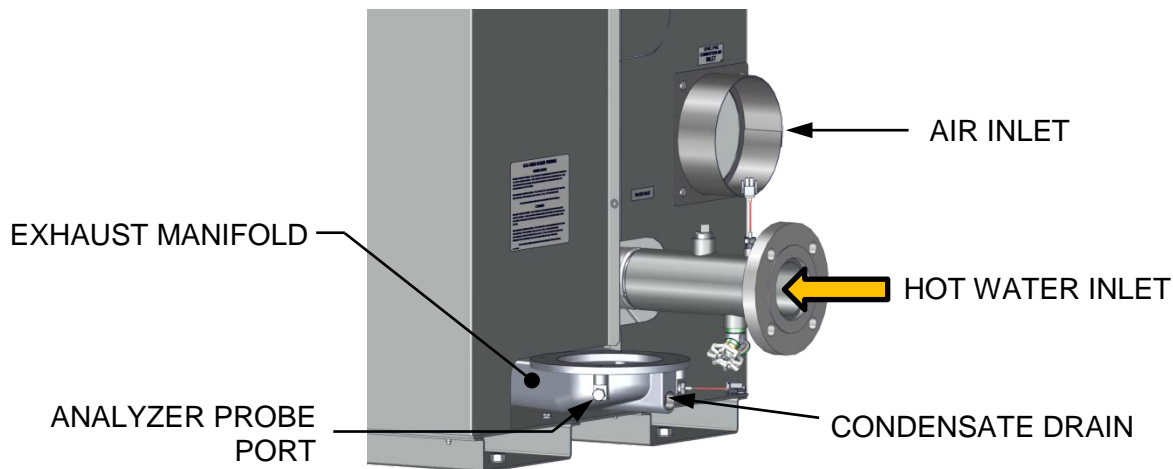

Figure 4-2a: BMK 750 & 1000 Analyzer Probe Port Location
The unit contains a 1/4" NPT port on the side of the exhaust manifold as shown in Figure 4-2a and 4-2b. Prepare the port for the combustion analyzer probe as follows:
1. Refer to Figure 4-2a or 4-2b and remove the 1/4" NPT plug from the exhaust manifold.
18. With the valve position at 100%, insert the combustion analyzer probe into the exhaust manifold probe opening (see Figure 4-2a or 4-2b in Section 4.2.3) and allow enough time for the combustion analyzer reading to stabilize.
20. Compare the measured oxygen level to the oxygen range shown in Table 4-2. Also, ensure that the nitrogen oxide (NO_x) and carbon monoxide (CO) readings do not exceed the values shown in Table 4-2. If your target NO_x value is 9 ppm or less, use the values in the Ultra-Low NO_x columns. If you are not in a “NO_x-limited” area and/or do not have a NO_x measurement in your analyzer, set the oxygen (O₂) at **5.5% ± 0.5%**.